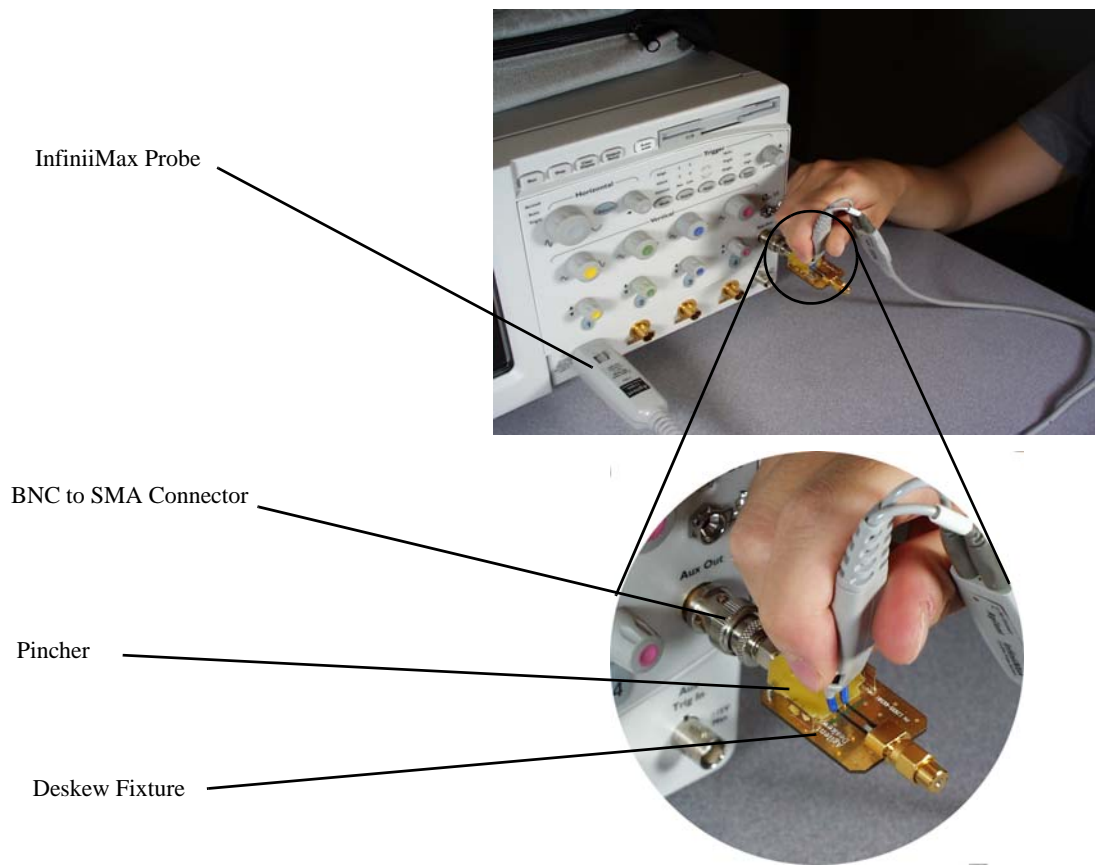

Figure 47 Placing the Probe on the Fixture
- 1 As shown in **Figure 47** on page 76, connect BNC (male) to SMA (male) adaptor to the deskew fixture on the connector closest to the yellow pincher.